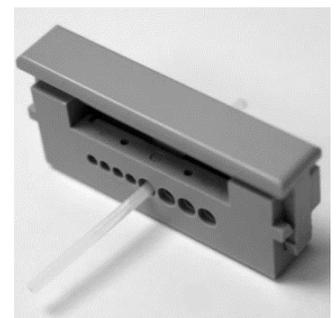

Figure 2
- Thread the tubing through the cutter taking care not to allow the tubing to drag along the blade. See figure 2.